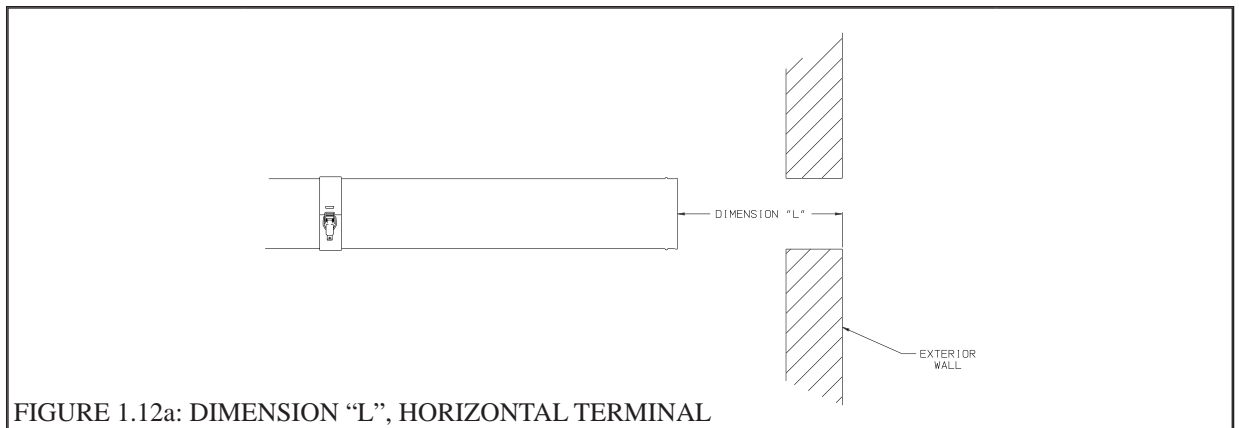

FIGURE 1.12a: DIMENSION "L", HORIZONTAL TERMINAL
- b) Measure distance "L" from the outside surface of the exterior wall to the end of the last fitting as shown in Figure 1.12a.